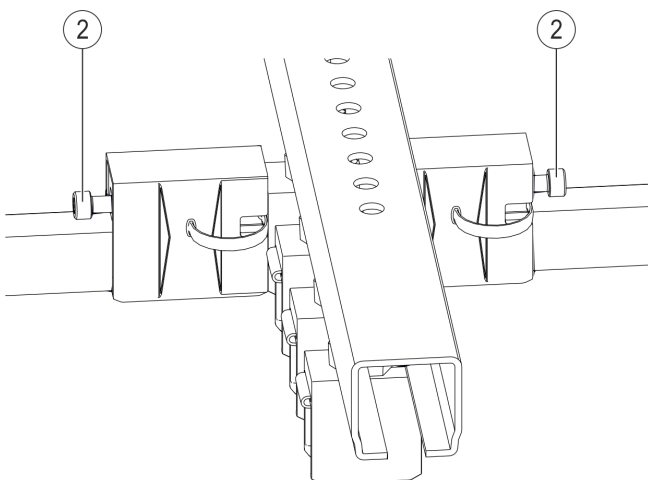

Fig. 95: Screw on the anchor clamps 0812
- Tighten the side screw (Pos. 2) (see Fig. 95) on the anchor point clamps with the prescribed torque (SW 5, torque wrench: **5.5-6 Nm**). Only tighten the screws after the setting of the system and the setting of the expansion units (see Section 6.4.3.7) have been completed.